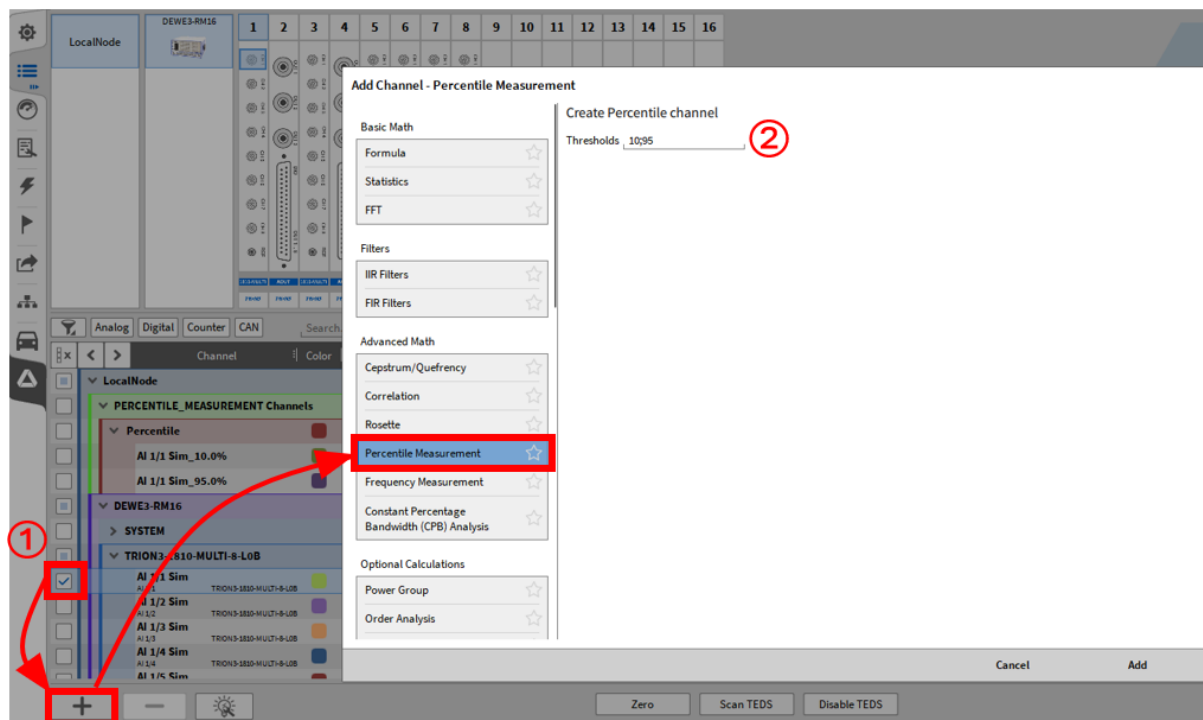
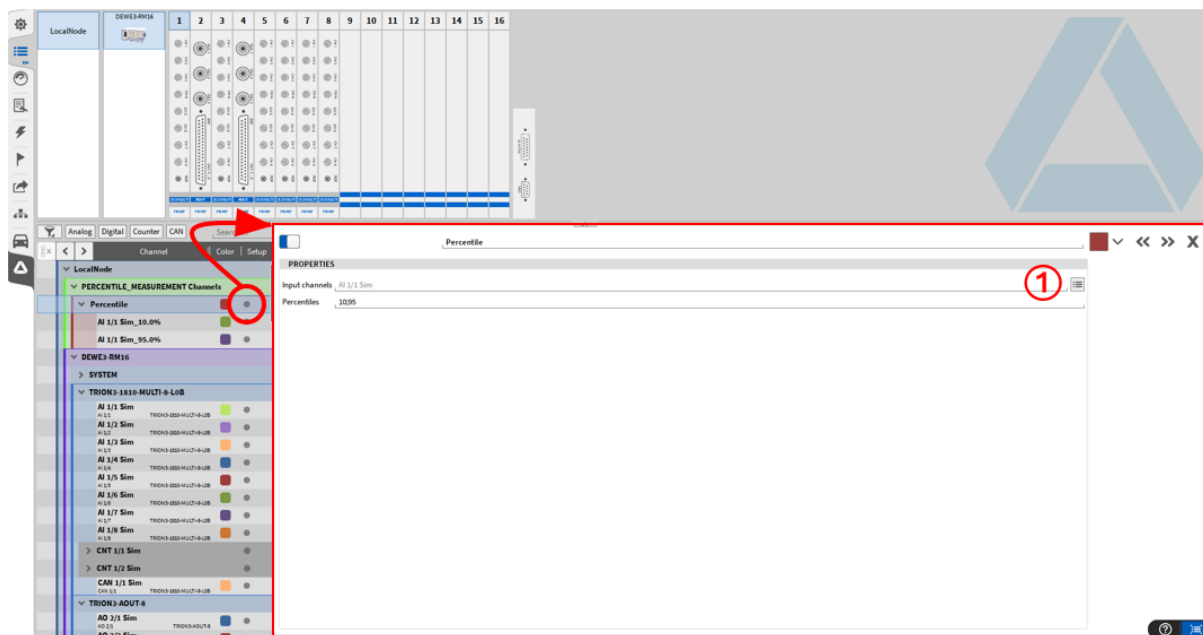

Fig. 7.121: Add a percentile measurement
Fig. 7.122: Subsequent changes to the percentile measurement
To create one or more channels for a percentile measurement, click on the + button in the bottom left corner of the channel list. A pop-up window appears in which the percentile measurement must be selected in the list (see Fig. 7.121). One or more channels must be selected in the channel list before clicking on the + button (see ① in Fig. 7.121). It is also possible to add channels for the measurement afterwards (see ① Fig. 7.122). You can specify 1 or more threshold values in %. When selecting multiple threshold values, the individual values must be separated by “;” (see ② in Fig. 7.121).
After clicking the Add button, a new section appears in the channel list called PERCENTILE MEASUREMENT Channels. To change the settings afterwards or to add channels or thresholds, click on the small cogwheel (see Fig. 7.122).